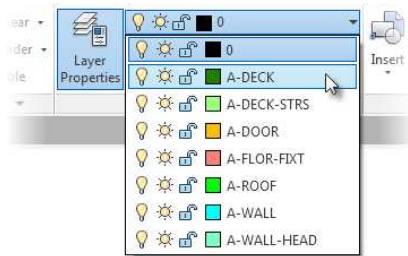

FIGURE 6.18: The expanded Layer drop-down list
5. Click the Layer drop-down list to open it (see Figure 6.18).